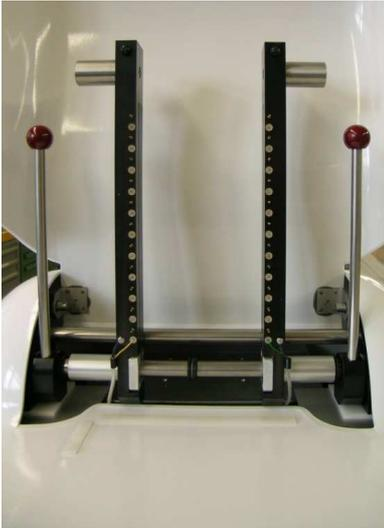

Figure 4.8 *Measuring arms in probe replacement position*
- The measuring arms should not be kept in the highest position if unnecessary, see Figure 4.8. In this position closure of the shielding lid may result in unwanted and unexpected movement of the measuring arms and result in entrapment of the hand and/or damage of the probes.
The measuring probes need to be replaced when excessive wear is detected. Worn measuring probes need to be removed and replaced by new ones. To ensure easy replacement, the measuring arms need to be in the highest position. See Figure 4.8.